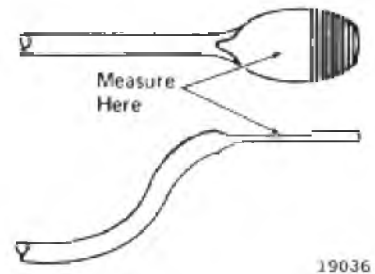

Fig. 5-27 - Lead Wire Measurement
- d. Bar the engine over one complete revolution to compress the lead wire. Remove the wire from the engine and measure the inboard portion of both compressed ends of the wire, Fig. 5-27.